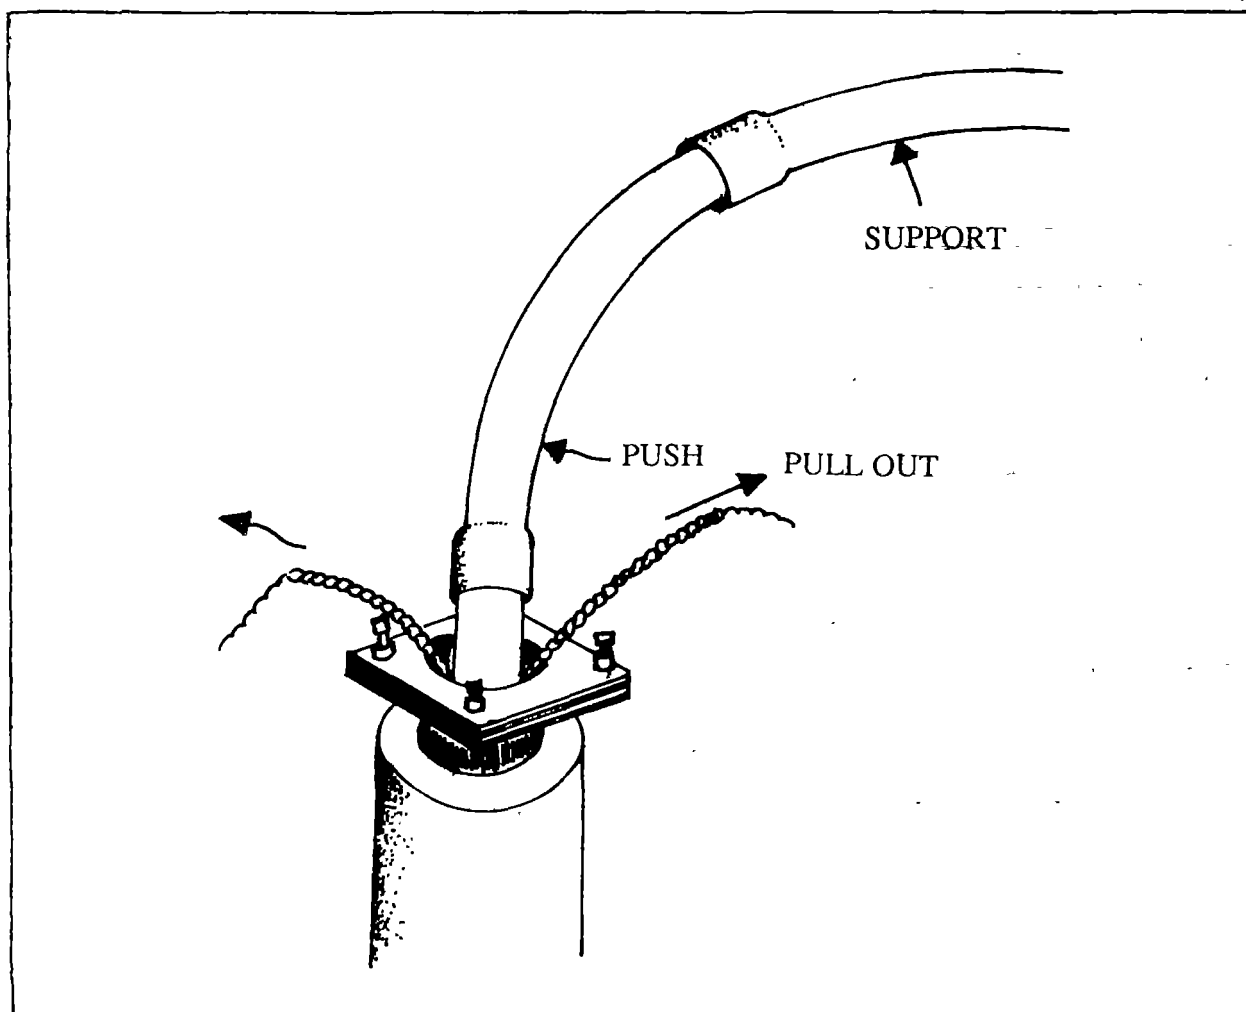

FIG 9. PULLING OUT THE RISING MAIN FOR REPAIR.
-Pull out the rising main with the help of safety ropes (at the metal cone), carefully in one piece and identify the location of the crack before making any cuts. (see fig 9 below)